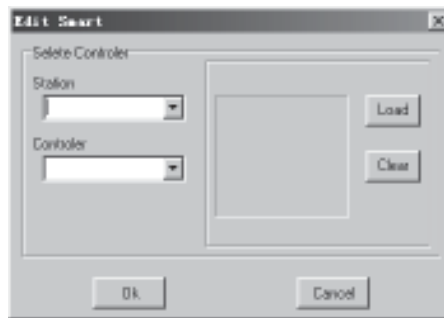

Fig. 4-31 Insert FAB Controllers
1. Select and click the button  and move the mouse to the drawing interface, the dialogue frame as in Fig. 4-31 will be shown in the system. Then select the corresponding controller.